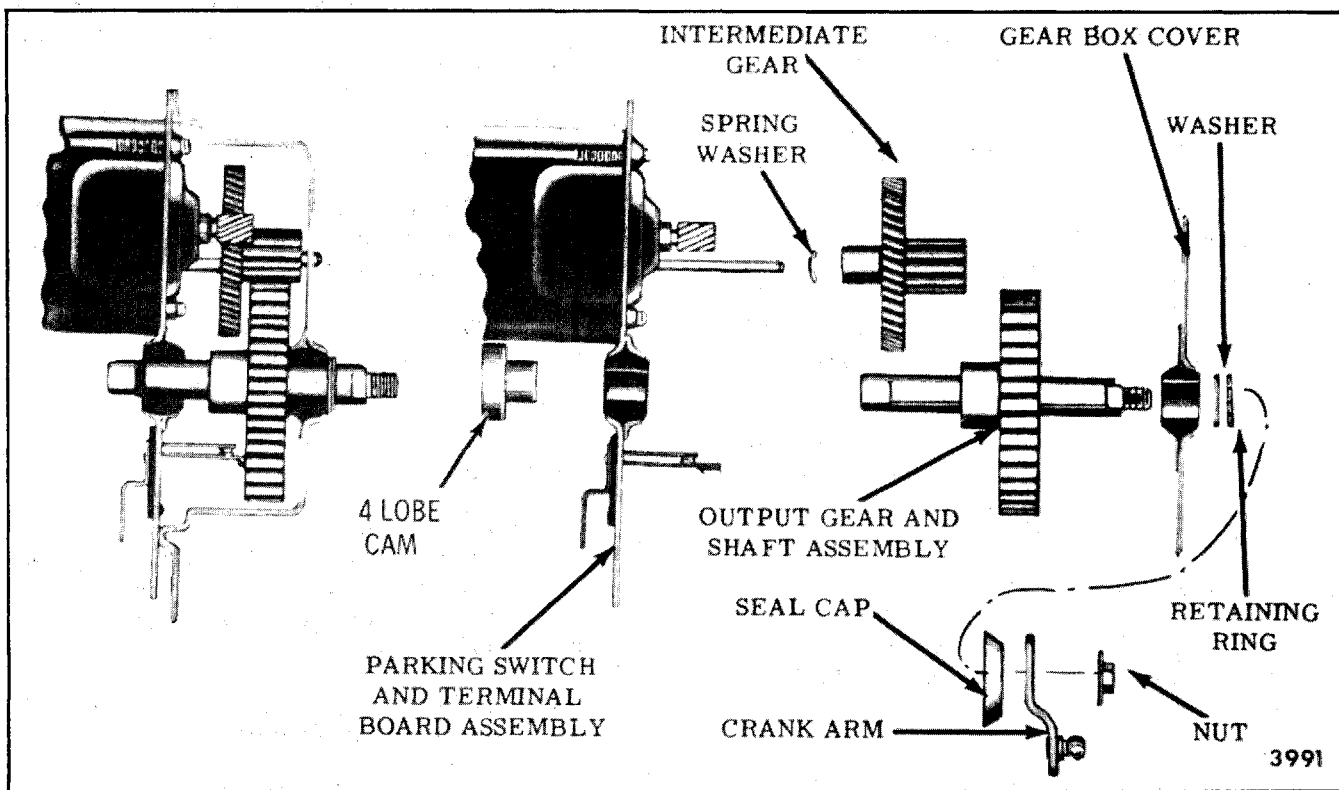

Fig. 2-13-Gearbox
3. Remove crank arm, seal cap, retaining ring and end play washers (Fig. 2-13).
6. Reassemble end play washers and retaining ring over output gear shaft (Fig. 2-13). Use end play washers as required to obtain .005" maximum end play.